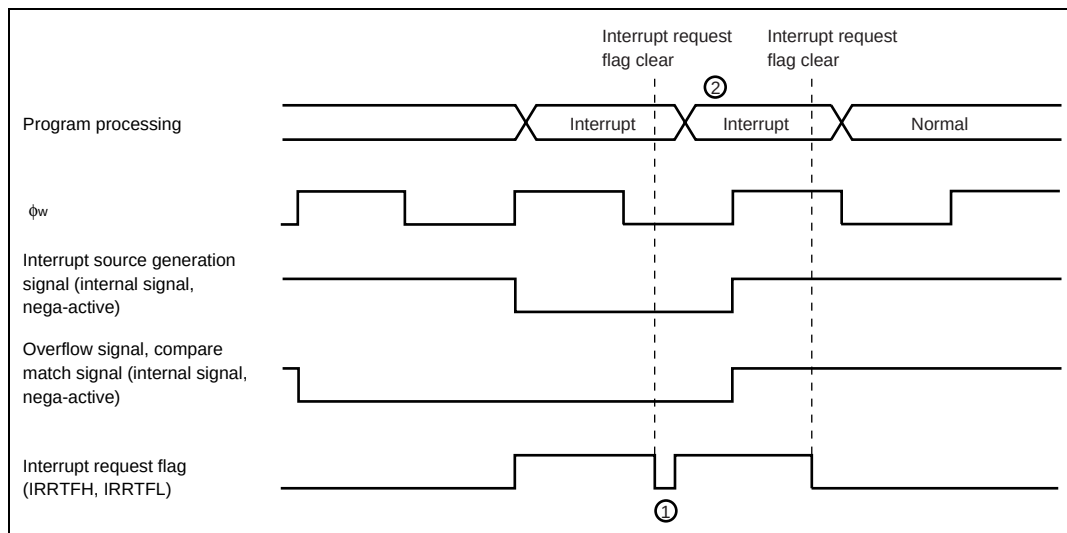

Figure 9.6 Clear Interrupt Request Flag when Interrupt Source Generation Signal Is Valid
Clear Timer FH, Timer FL Interrupt Request Flags (IRRTFH, IRRFTL), Timer Overflow Flags H, L (OVFH, OVFL), and Compare Match Flags H, L (CMFH, CMFL): When $\phi_w/4$ is selected as the internal clock, “Interrupt source generation signal” will be operated with ϕ_w and the signal will be outputted with ϕ_w width. And, “Overflow signal” and “Compare match signal” are controlled with 2 cycles of ϕ_w signals. Those signals are outputted with 2 cycles width of ϕ_w (figure 9.6)
In active (high-speed, medium-speed) mode, even if you cleared interrupt request flag during the term of validity of “Interrupt source generation signal”, same interrupt request flag is set. (1 in figure 9.6) And, the timer overflow flag and compare match flag cannot be cleared during the term of validity of “Overflow signal” and “Compare match signal”.
For interrupt request flag is set right after interrupt request is cleared, interrupt process to one time timer FH, timer FL interrupt might be repeated. (2 in figure 9.6) Therefore, to definitely clear interrupt request flag in active (high-speed, medium-speed) mode, clear should be processed after the time that calculated with below (1) formula. And, to definitely clear timer overflow flag and compare match flag, clear should be processed after read timer control status register F (TCSRFB) after the time that calculated with below (1) formula.